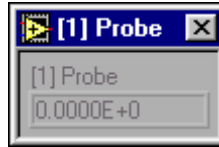

Figure 1.34
- a.  Use the Probe tool, shown this media, to click any wire. A window similar to Figure 1.34 appears.